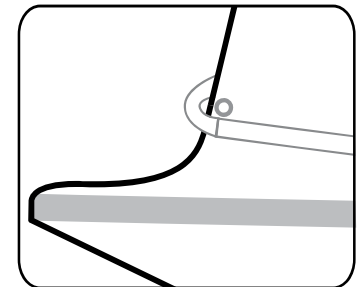

Fig. 5: Outhaul to the end of the boom.
d) Finally, outhaul your sail to the end of the boom (fig. 5).